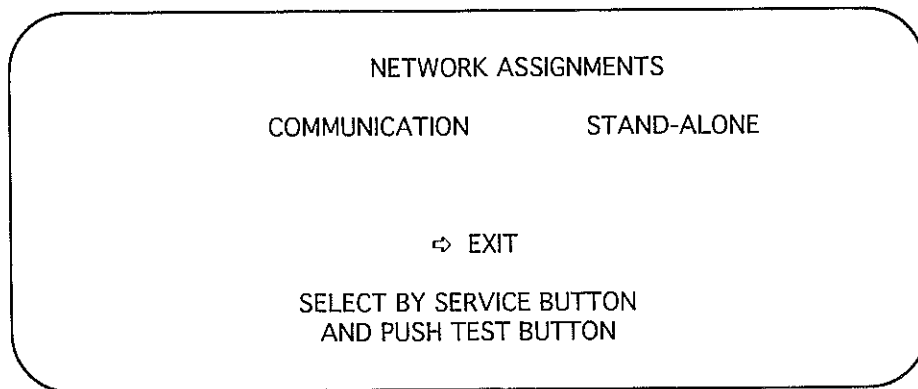

FIGURE 17: NETWORK ASSIGNMENTS SCREEN -- STAND-ALONE MODE
1. Press the Test Button to enter the Test menu and choose NETWORK ASSIGNMENTS (see Figure 17).